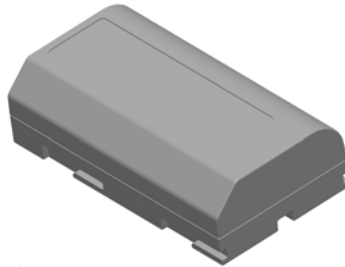

Figure 3.2 Trimble 7.4 V Li-Ion battery
**Tip** – The Five slot charger and Dual slot charger can also be used to charge the Trimble 7.4 V Li-Ion batteries used in the Trimble MultiTrack™ Target and the Trimble Active Track 360 Target, see Figure 3.2